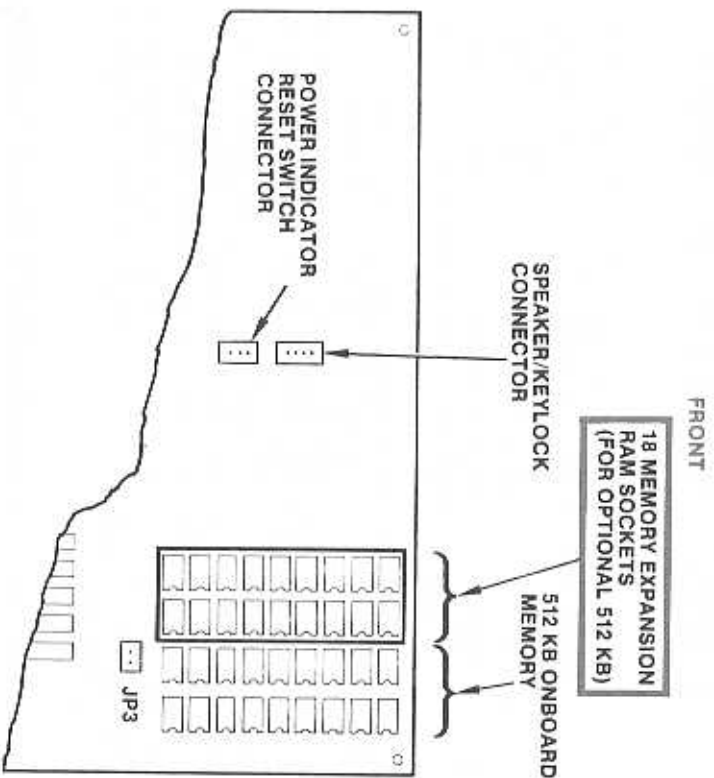

Figure 7-1. Optional Memory Chip Location
Your PC system unit comes equipped with 512K bytes or 1M byte of memory installed on the system board. If you only have 512K bytes, the system board has expansion sockets for adding 18 memory chips (another 128K or 512K bytes of memory). Adding these chips brings the on-board memory up to 640K or 1M byte. Figure 7-1 shows the location of the memory sockets.
2. If controller boards are blocking access to the expansion memory sockets on the system board (see Figure 7-1), remove the controller boards, as described in section 2.4.